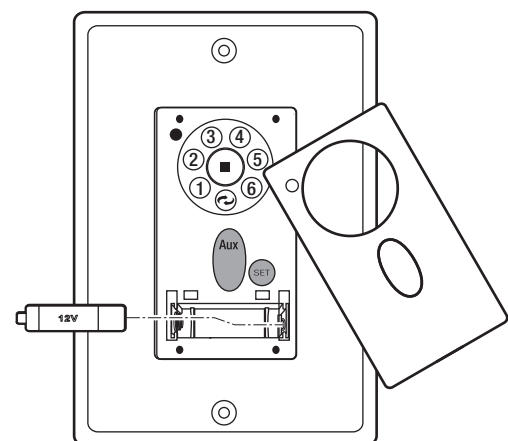

Figure 20
Remove the panel from the transmitter and then install one 23A/12V battery (included). To prevent damage to transmitter, remove the battery if not use for long periods of time. (Fig. 20)
3. Within 30 seconds of turning AC power on, press and release the "SET" button five seconds to enter the learning function. The down light of your fan, if applicable, will blink twice, and the fan will automatically begin to operate and start to rotate in counterclockwise direction and on the highest RPM for 1 minutes. When counterclockwise rotation has finished, the fan will automatically reverse to clockwise direction again to the highest RPM for 1 minutes. Fan will shut off when the self-calibration test has finished. The total self- calibration test will last about 2 minutes. (Fig. 20)